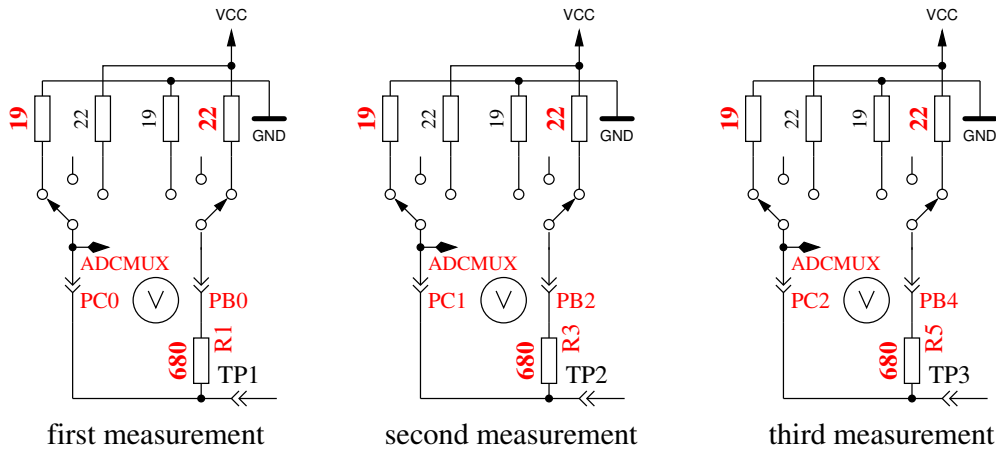

Figure 5.66. Measurement of internal resistance of Port C switched to GND
5. **This step tests the capability of GND (-) connected 470kΩ resistors (H) to pull the test pins to GND.** Row 1 shows the text “RH-”. Row 2 should display zero for all three pins.
6. **This step tests the capability of VCC (+) connected 470kΩ resistors (H) to pull the test pins to VCC (+).** Row 1 shows the text “RH+”. The results are shown als difference to VCC and should be near zero. Great differences from the best value for test 5 and 6 are errors such as isolation problem, flux material or damaged port.
8. **Measuring of internal resistance of pin output switched to the GND signal.** This test and the follwing tests will only be done, if the option AUTO_CAL is selected. The internal resistance of the port C outputs switched to GND (-) are measured with the current of to VCC (+) switched 680Ω resistors, see Figure 5.66. Only the three pins of the ADC port are measured, the resistor port B (PB0,PB2 and PB4) can not be measured without hardware modification. Is is assumed that the port resistance of the different ports are nearly identical. The resistor value will be shown in the next test.